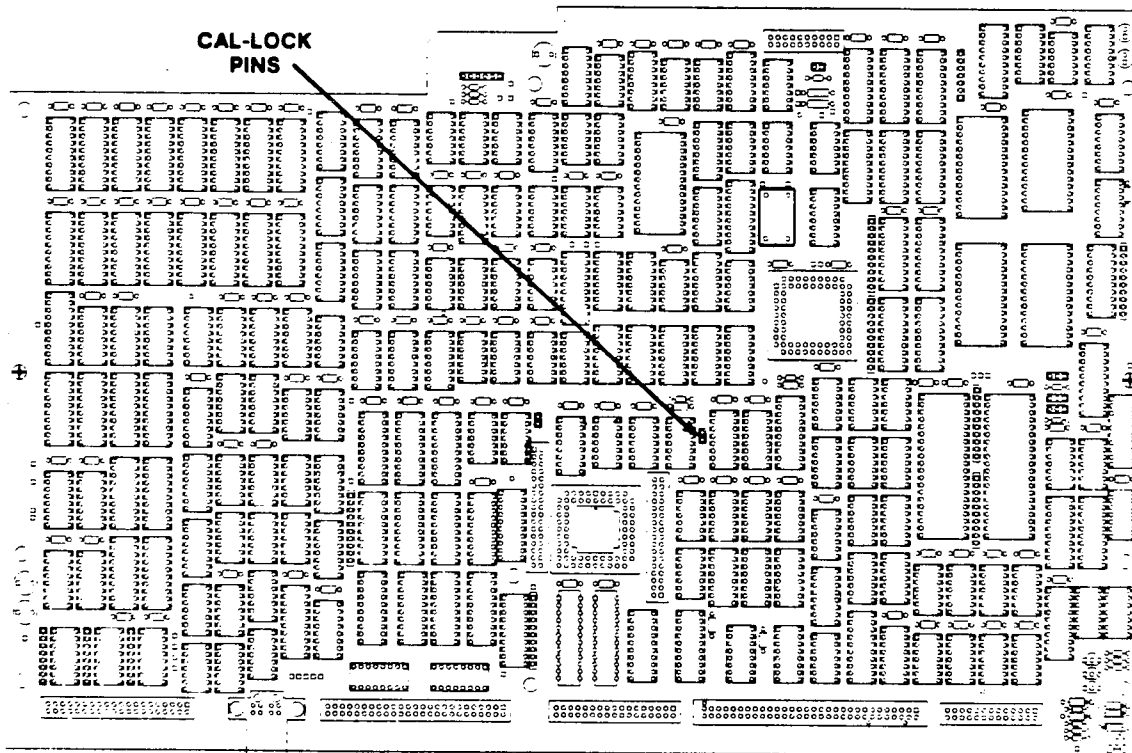

Figure 4. - 11401/11402 Time base ckt bd A6
1. 11401 and 11402, remove the bottom cover of the mainframe and install a Term Conn Link (shorting strap) on the CAL-LOCK terminals located on the Time Base circuit board A6. Refer to Figure 4. for pin locations.